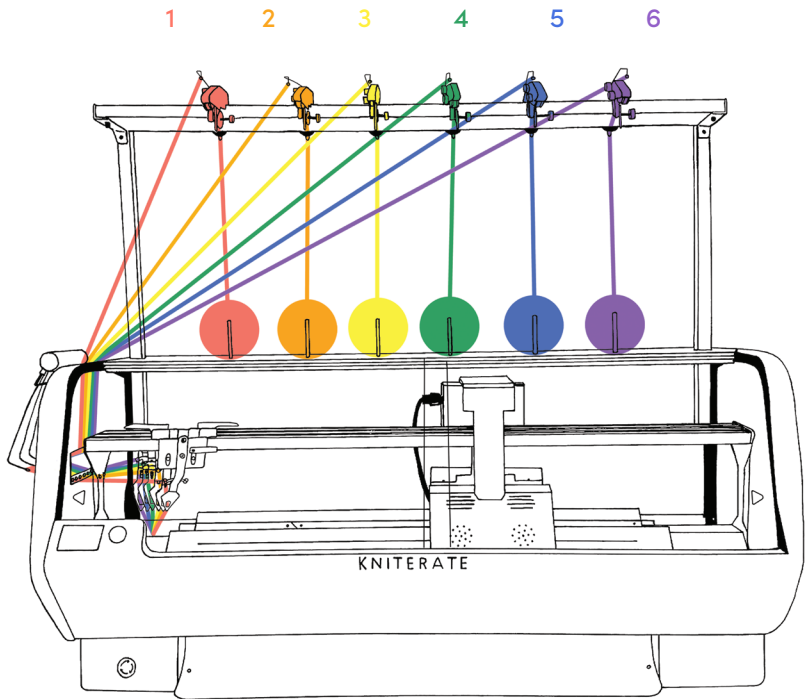

Fig 25
Thread each yarn as described in 6.3.1, while changing only the location of the path. This means that for example the second yarn follows the orange course (Fig 25 to 28). The third and fourth path use an extra guide (EG) each between guide VII and VIII.